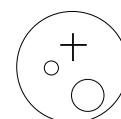

Figure 1: Plug with markings (view from above)
2. Close the roller clamp on the transfusion set and insert the needle into the bottle plug at the point marked with the large circle (see Figure 1).
4. Insert the transfer filter set into the bottle plug with the roller clamp closed at the cross marking (see Figure 1), open the roller clamp until small bubbles bubble through the blood. The vacuum in the infusion bottle draws in the ozone/oxygen mixture from the syringe and distributes it evenly in tiny bubbles. The roller clamps on the transfer filter set and, on the transfusion, set remain slightly open.